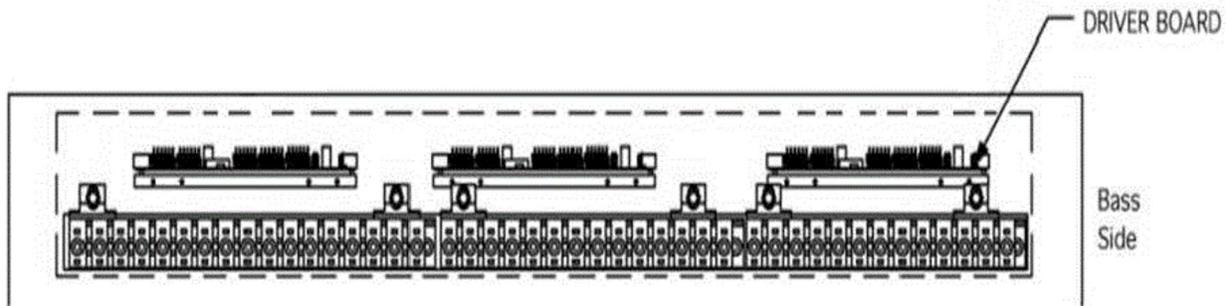

Figure 42—key bed
- B. **Connecting the driver data (phone) cable:** Two gray 8" (204 mm) data cables are supplied in the kit. Plug the first data cable from treble to the tenor board and then the second data cable from the tenor board to the bass board. Locate the 48" black data cable. Plug one end into the CPU and route neatly to the cover plate; then run the cable thru one of the moon holes on the cover plate and plug into the bass driver board. (See Fig. 42)
- C. **Connect the pedal cable:** Route the pedal cable neatly to the cover plate. then route the cable thru the moon hole and plug into the bass driver board. (see fig. 42)